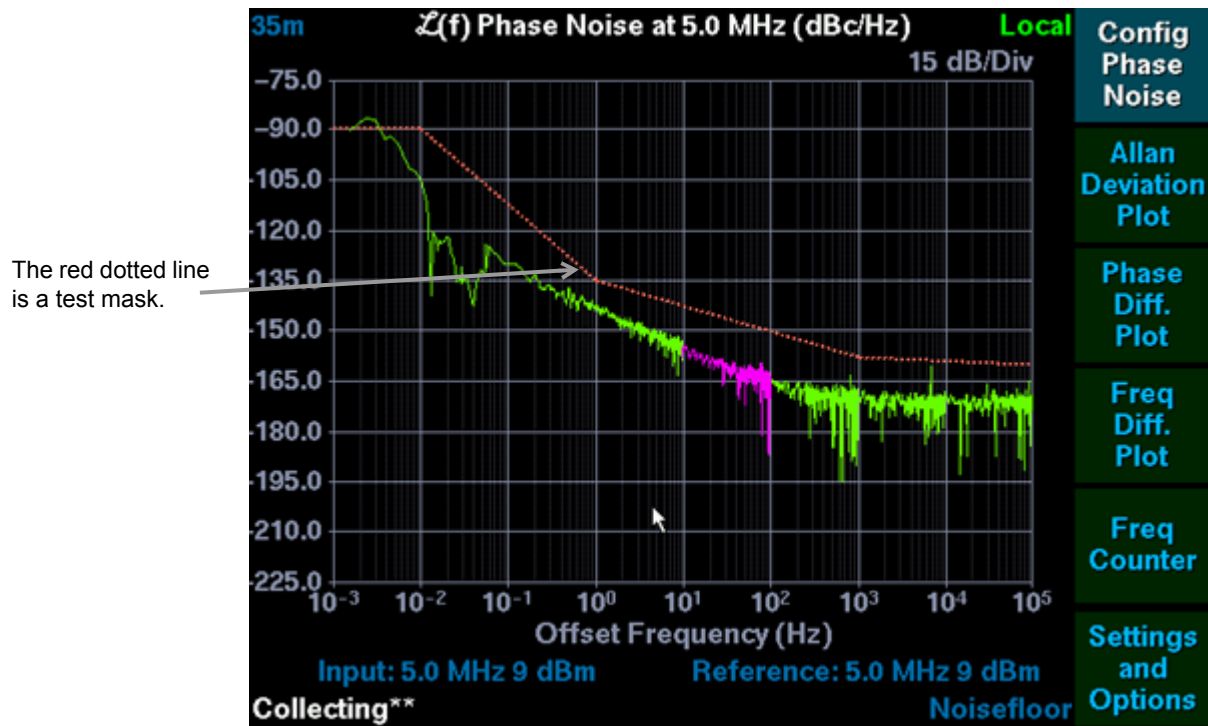
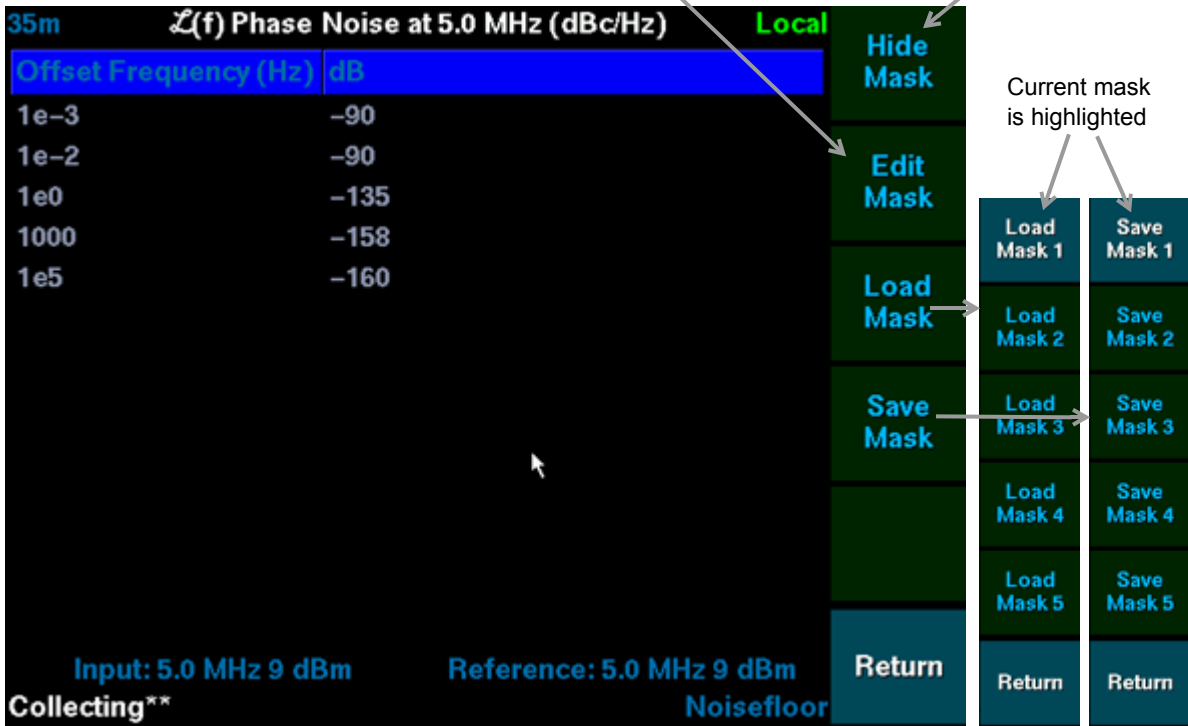

Figure 11: Example Test Mask for Phase Noise
Figure 12: The Test Mask Editor
4. The Test Mask Editor is activated and displays the points in the current test mask. The current test mask is empty when the phase noise test set is shipped. Figure 12 on page 39 shows the test mask editor for the test mask shown in Figure 11 Example Test Mask for Phase Noise.
3. Press one of the softkeys (shown on the right in Figure 12 The Test Mask Editor) to save the mask to the corresponding slot.
3. Press one of the softkeys (shown on the right in Figure 12 The Test Mask Editor) to load the test mask stored in the corresponding slot.